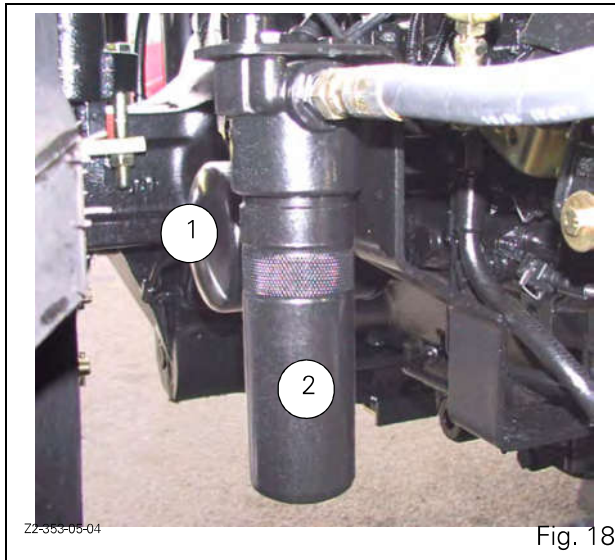

Fig. 18
- **Change the 150-micron suction strainer** every 1200 hours (1 Fig. 18).
- **Change the 15-micron filter** every 400 hours. Replace the high pressure filter element located on the right-hand side of the housing (2 Fig. 18).